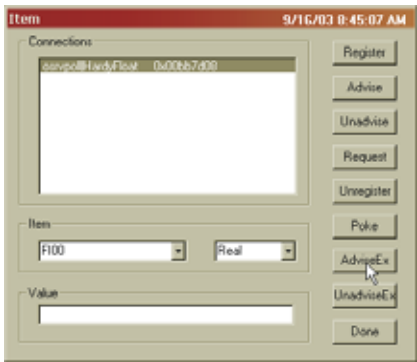

FIG. 235: ITEM DIALOG BOX
- Step 12. Click on the Item in the menu list. The Item dialog box appears with the connection listed. (See Fig. 235)